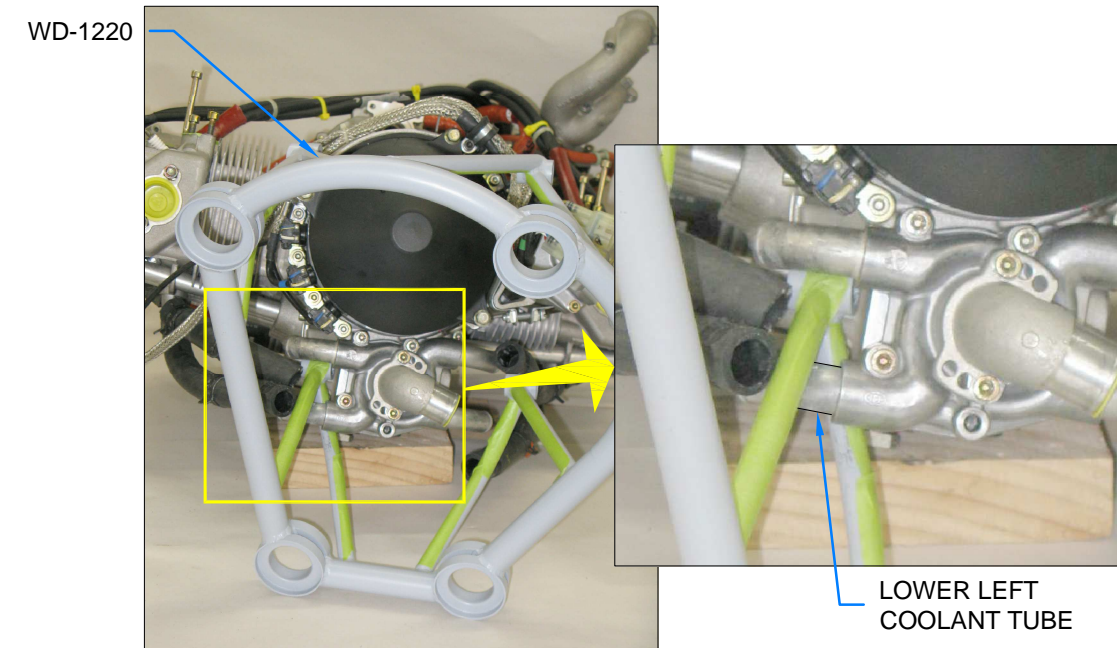

FIGURE 4: INSTALL ENGINE MOUNT: PART 2
Step 6: Rotate the bottom left side of the WD-1220 forward and over the lower left water pump coolant tube. This will be a tight fit, be careful not to damage the coolant tube! See Figure 4.